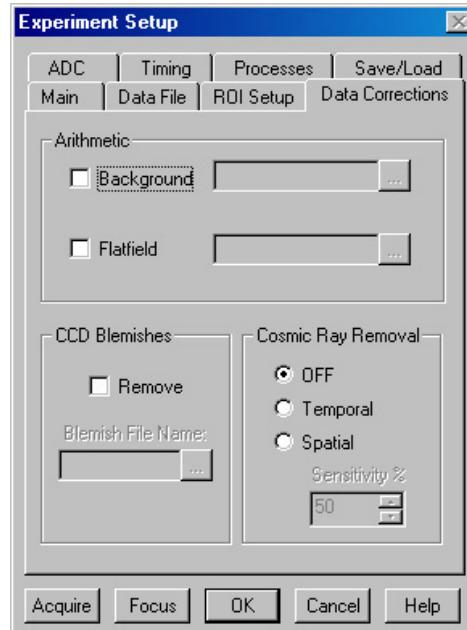

Figure 134. Data Corrections tab page
To acquire a background with the shutter open, or if the Acquire Background feature is too restrictive in some other way, a background file can be collected as a normal data file. Once the file is collected and stored, enter the filename in the Background Subtract filename box on the Experiment Setup Data Corrections tab page (see Figure 134).
2. Click on the Data Corrections tab. The Data Corrections tab page will be selected (Figure 134).
If the Acquire Flatfield feature is found to be too limiting in some way, a flatfield file can be collected as a normal data file. Once the file is collected, enter the filename in the Flatfield Correction filename box on the Experiment Setup Data Corrections tab page (Figure 134).
2. Click on the Data Corrections tab to select the Data Corrections tab page (Figure 134).